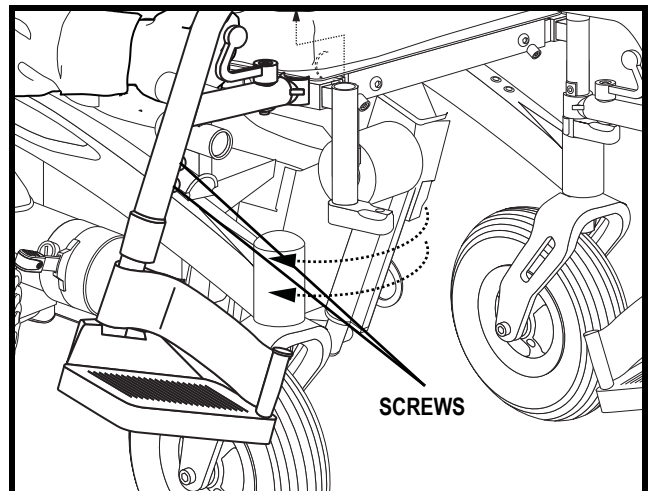

Figure 20. Swing-away Adjustment
1. Remove the screws from the SFR. See **figure 20**.